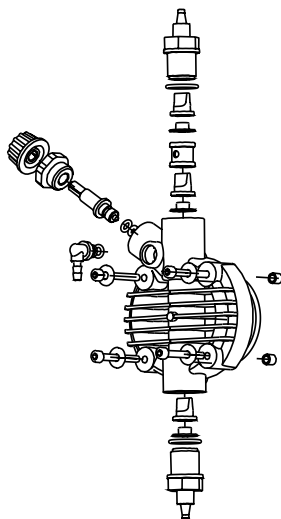

Fig. 10
- the additive concentration in the pipework; a reduction of this concentration could be caused by the wearing of the valves, in which case they need to be replaced (Fig. 10) or by the clogging of the filter which then has to be cleaned as in point 3 here below.